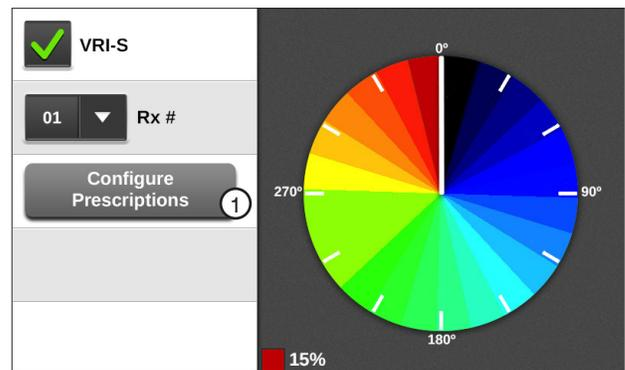

Figure 161-1 VRI-S Screen
The Configure Prescription button is used to select, edit, review and load prescription numbers and sectors. Push **Menu, Programs, VRI-S** and push the **Configure Prescriptions** button to view the Configure Prescriptions screen. Refer to Figures 161-1 and 161-2.
1. Push **Menu, Programs, VRI-S** to display the VRI-S screen. Refer to Figure 161-1.